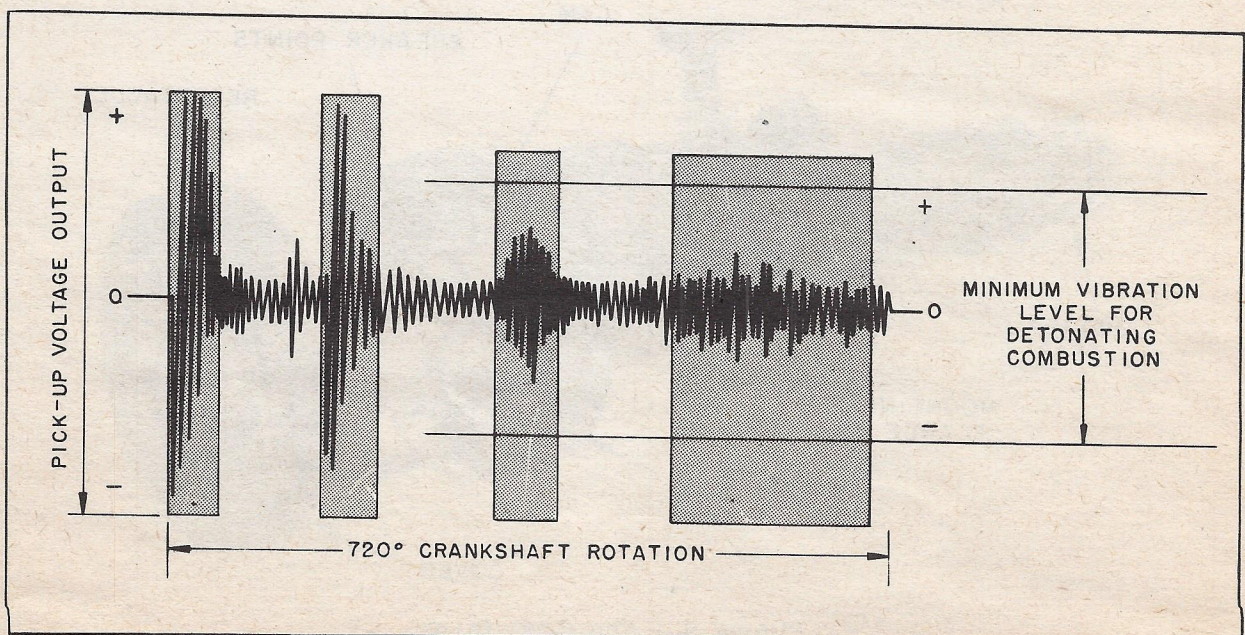

Figure 7 - Minimum Amplitude of Detonating Combustion
(3) Should detonation occur during the combustion stroke of the piston, the amplitude pattern formed for that period will at least reach and extend beyond the lines marked "minimum vibration level for detonating combustion" in figure 7.